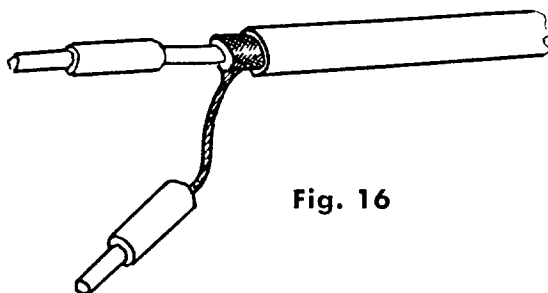

Fig. 16
4. ( ) Fig. 16. Complete end B of the shielded lead by soldering pin tips to the inner conductor and to the flat wire braid.